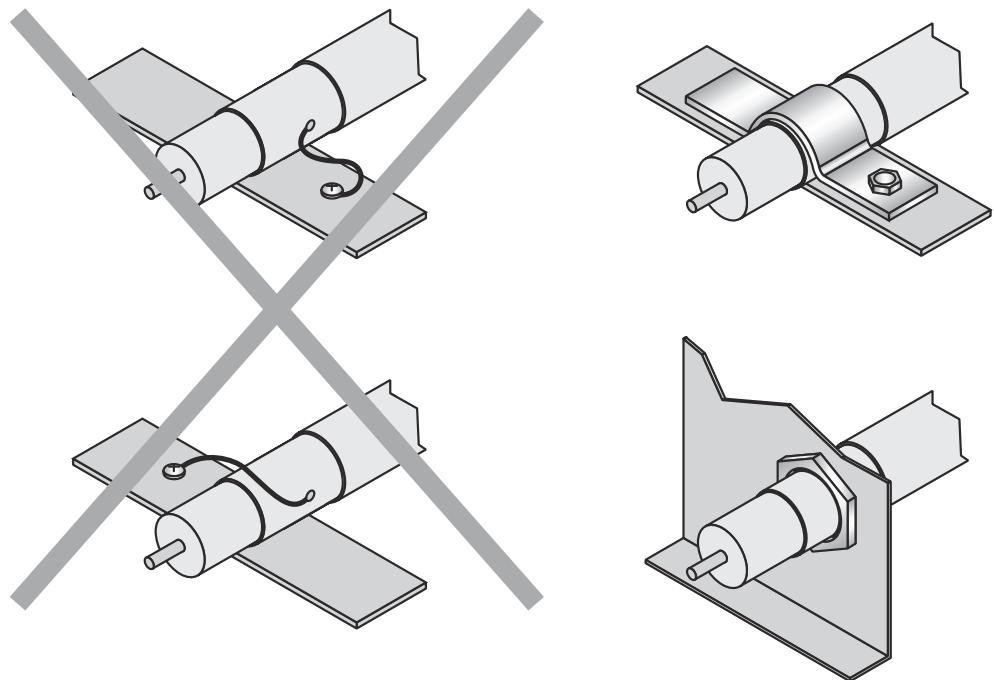

Figure 5: Make an extensive and low-impedance ground connection of the cable shield in the control cabinet.
- The cable shield in the control cabinet must be connected to a large area of the signal ground, see figure 5, page 29.